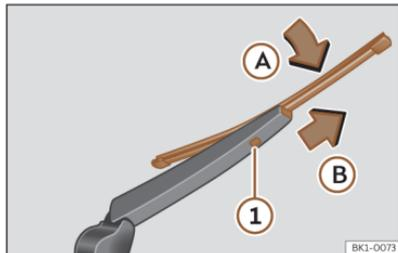

Fig. 180 Changing the rear wiper blade
- Rotate the blade lightly >>> **Fig. 180** (arrow **A**).
- Hold down the release button ① while gently pulling the blade in the direction of arrow **B**.
- Insert a new blade of the **same length and type** in the rear wiper arm in the opposite direction to the arrow (B) until button (1) hooks into place.